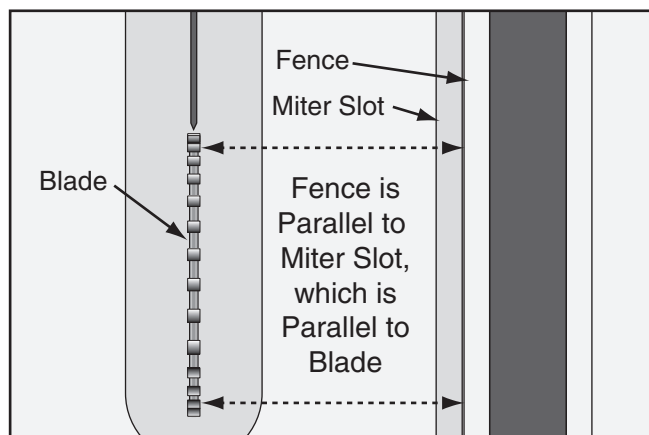

Figure 29. Checking fence parallelism with blade.
17. Slide fence against right-hand edge of miter slot and lock it in place. Examine how fence lines up with miter slot and miter slot lines up with blade (see **Figure 29**).